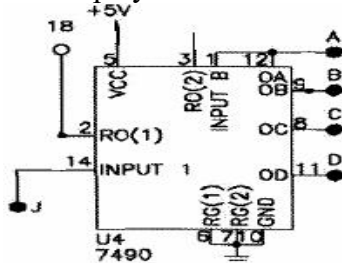

Fig.10(IC 7490) BCD Counter.
First, we located BCD counter (IC 7490) on KL-26007 module (block b). Then, we connected the circuit shown in Figure.10. Then, we connected RO (1) and RO (2) (pins 2 & 3) to 0v, note that RO (1) and RO (2) are two inputs to internal NAND gate which used to reset the counter. We connected clock INPUT 1 (pin 14) to Pulser switch. Connected the outputs (A, B, C, and D) to indication lamps. We applied clock pulses to INPUT 1, and observed the count sequence (0000-1001). We applied counter outputs (A, B, C, and D) to **D1 display** inputs. Applied clock pulses to INPUT 1. Observed the count sequence on the display. Connected the INPUT 1 to the output of the clock generator. Observe the count sequence on the display.